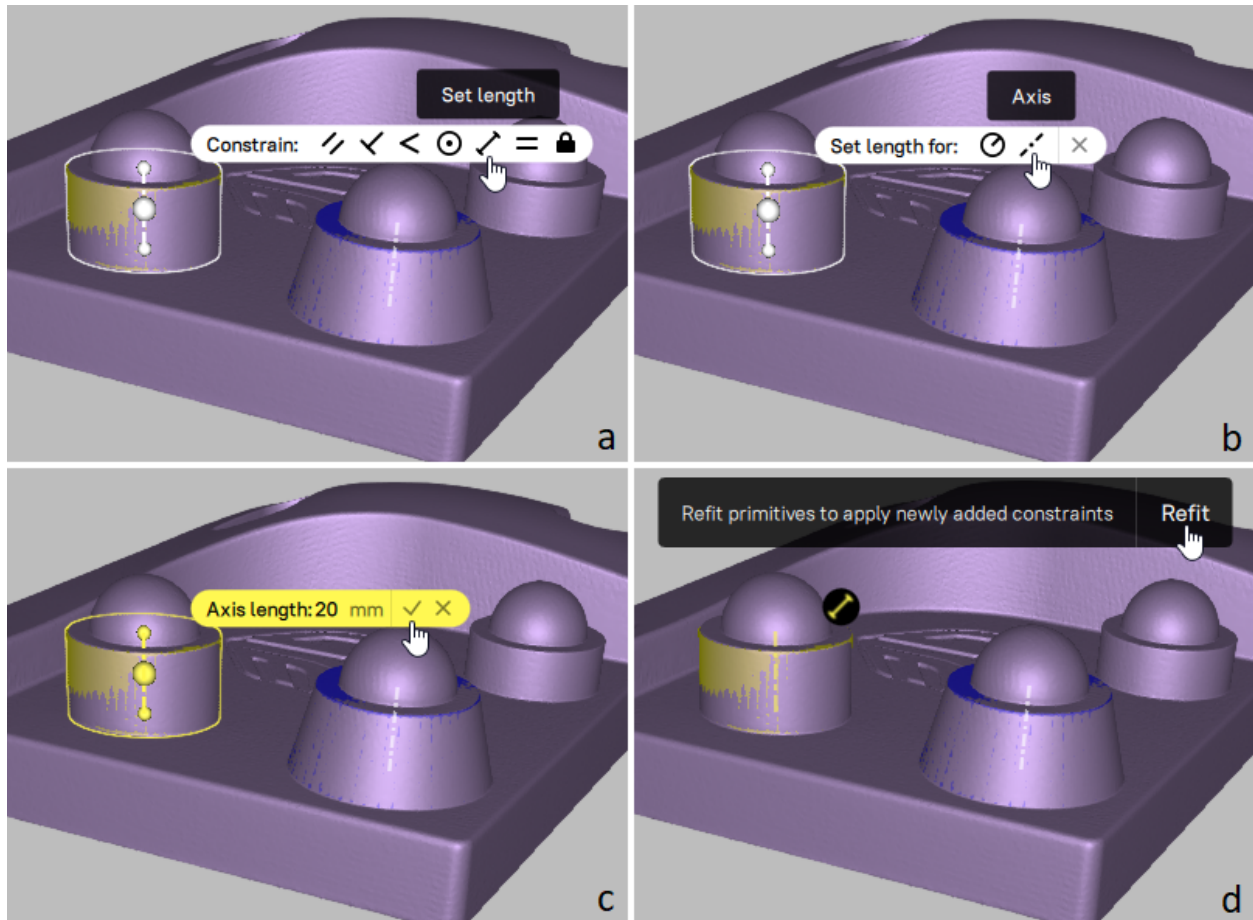
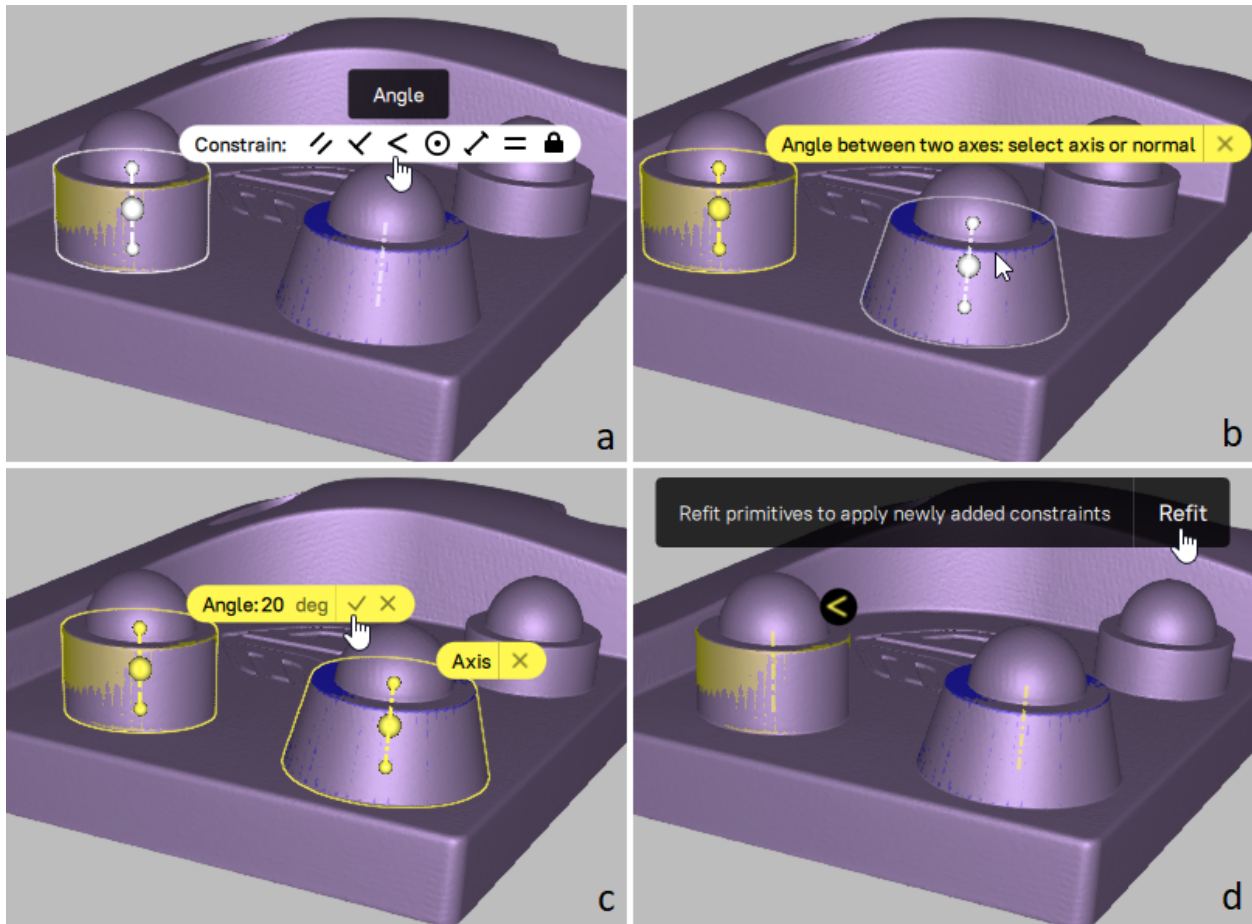
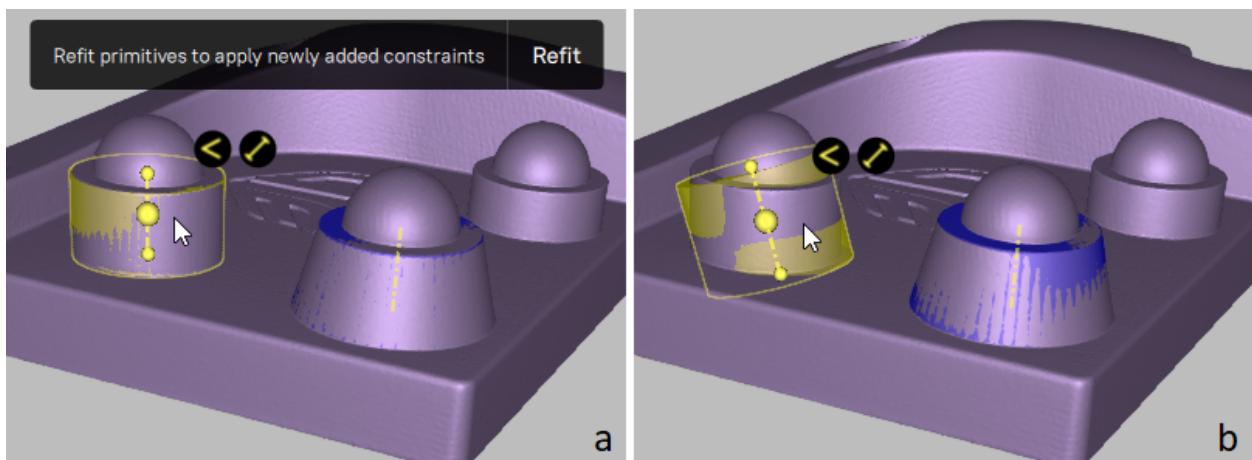

Figure 166: Example for specifying CAD primitive constraints: setting the height of a cylinder.
Figure 167: Example for specifying CAD primitive constraints: setting the requirement that the axes of two primitives are at a given angle to each other.
Figure 168: Example for applying CAD primitive constraints.
2. Click the desired primitive. The *Constrain* pop-up toolbar appears with icons for the applicable constraint types (see an example of such a toolbar for the case of a cylinder in Figure 166, a and Figure 167, a).
- For  (set length), click one of the icons of primitive sizes on an additional pop-up tool bar if it appears (see an example in Figure 166, b). Specify the desired primitive size value and click  on the appropriate pop-up toolbar (see Figure 166, c).
- For , , , and , click all other primitives to be involved into the new relation (see an example in Figure 167, b). When done, click  on the appropriate pop-up toolbar (see Figure 167, c).
The corresponding constraint icon will be displayed next to each primitive participating in the constraint but no changes to the size or position of the primitives will occur at this point (see examples in Figure 166, d and Figure 167, d). A pop-up toolbar with the *Refit* button will appear at the top of the *3D View* window.
The primitives will be rebuilt to satisfy the specified constraints. Figure 168, b presents the result of applying both constraints illustrated in Figure 166 and Figure 167.